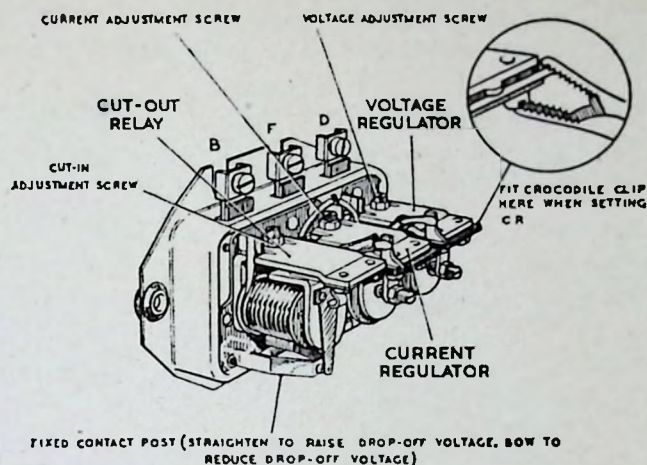

FIG. 82.—Control box with cover removed.
- (vii) Slacken the locknut of the voltage adjustment screw and turn the screw (clockwise to raise the setting or anti-clockwise to lower it) until the correct setting is obtained. (See Fig. 82.)
- (ii) Place a crocodile clip between the insulated fixed contact bracket of the voltage regulator and voltage regulator frame. (See Fig. 82.)
- (vi) Slacken the locknut of the cut-out relay adjustment screw and turn the screw (clockwise to raise the setting or anti-clockwise to lower it), until the correct setting is obtained. (See Fig. 82.)